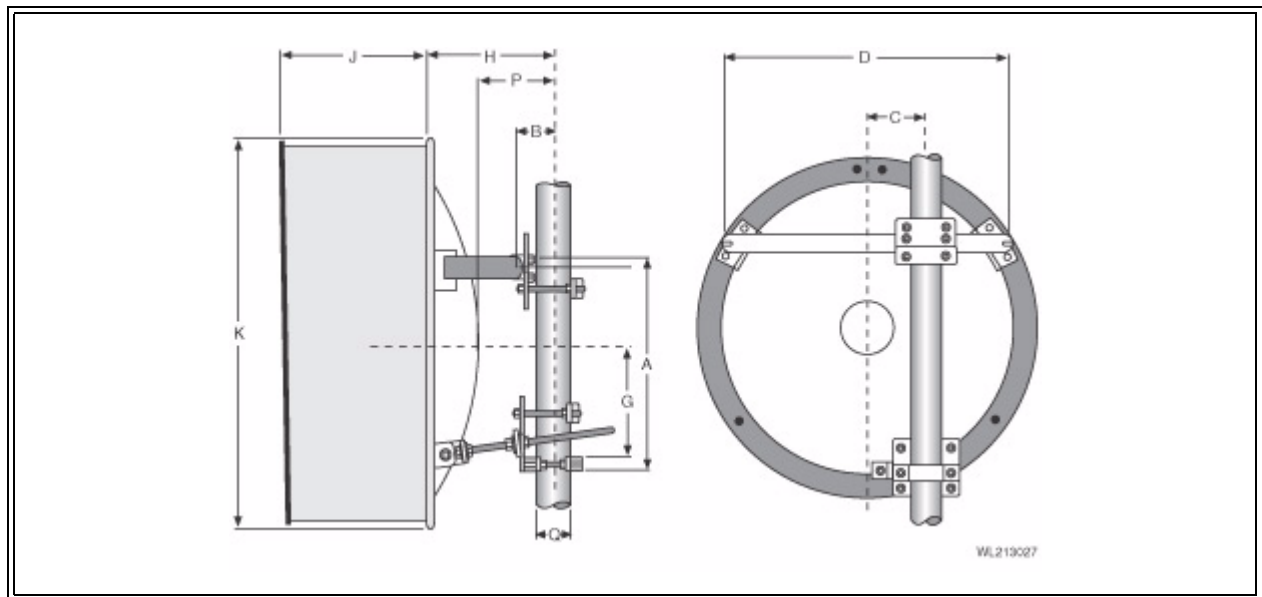

Figure 4-14 Four Foot (122 cm) Antenna
- 29 For antenna mounting and planning dimensions, see Figure 4-14 and Table 4-3.